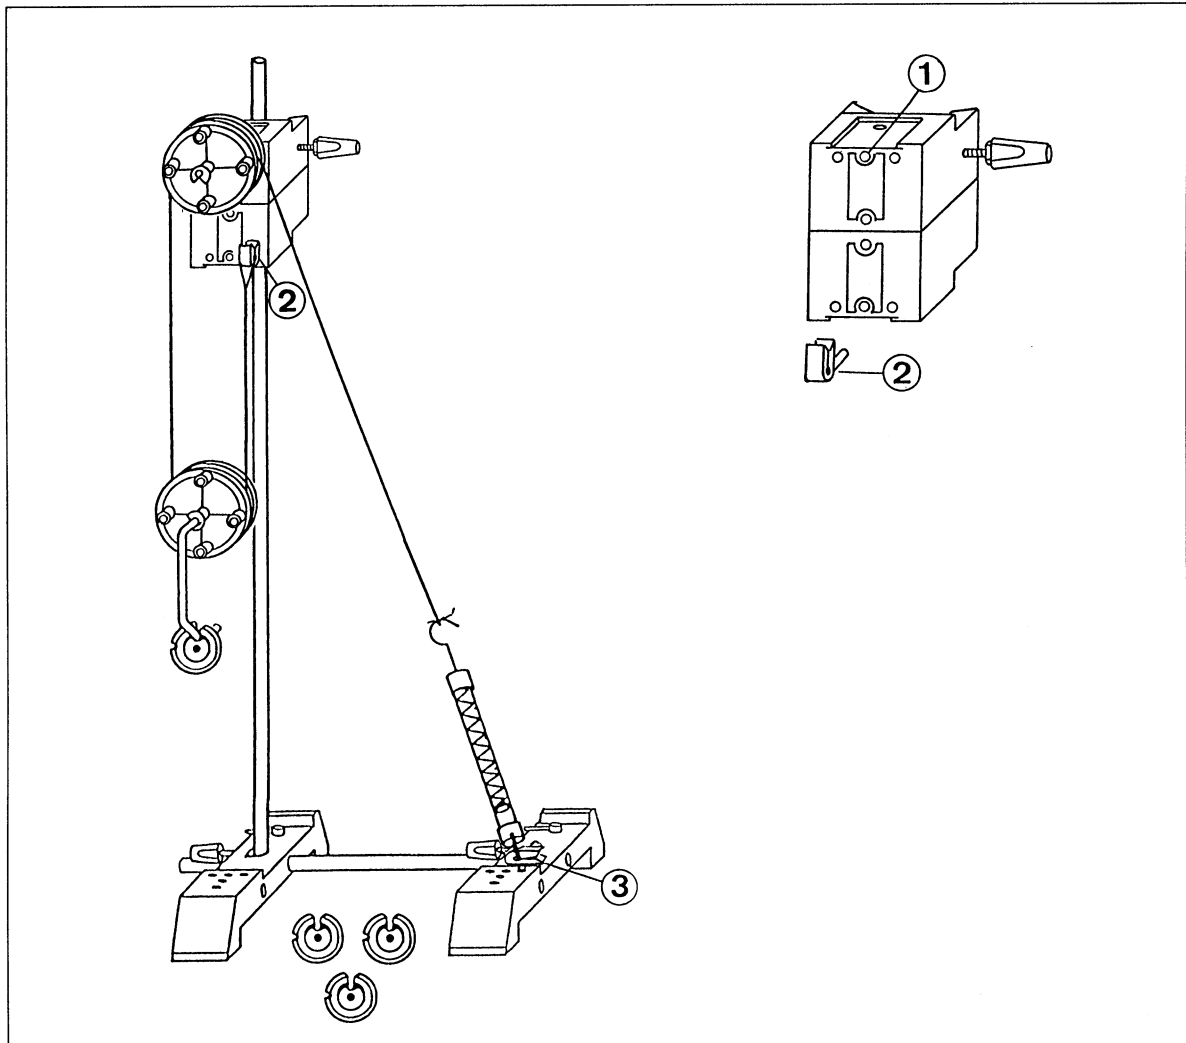

Fig. 1 Load hoist with one movable pulley and one fixed pulley.
1. Assemble the stand bases, stand rods and sleeve blocks as shown in fig. 1.
(1) Hole for plugging in the fixed pulley; (2) and (3) retaining clips
3. Arrange the sleeve blocks as shown in the drawing inset in fig. 1.
4. Plug the fixed pulley into hole (1).
- Hook the cord to the retaining clip (2) and position it round the pulleys. ► Fig. 1.